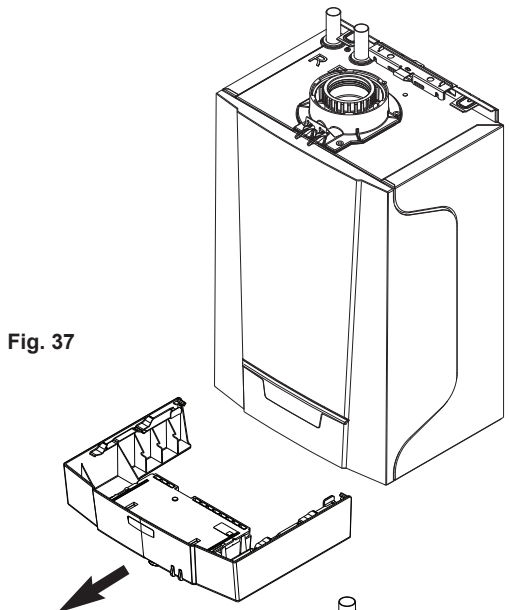

Fig. 37
2. Slide the lower front panel forward and hinge down or remove (Fig. 37).